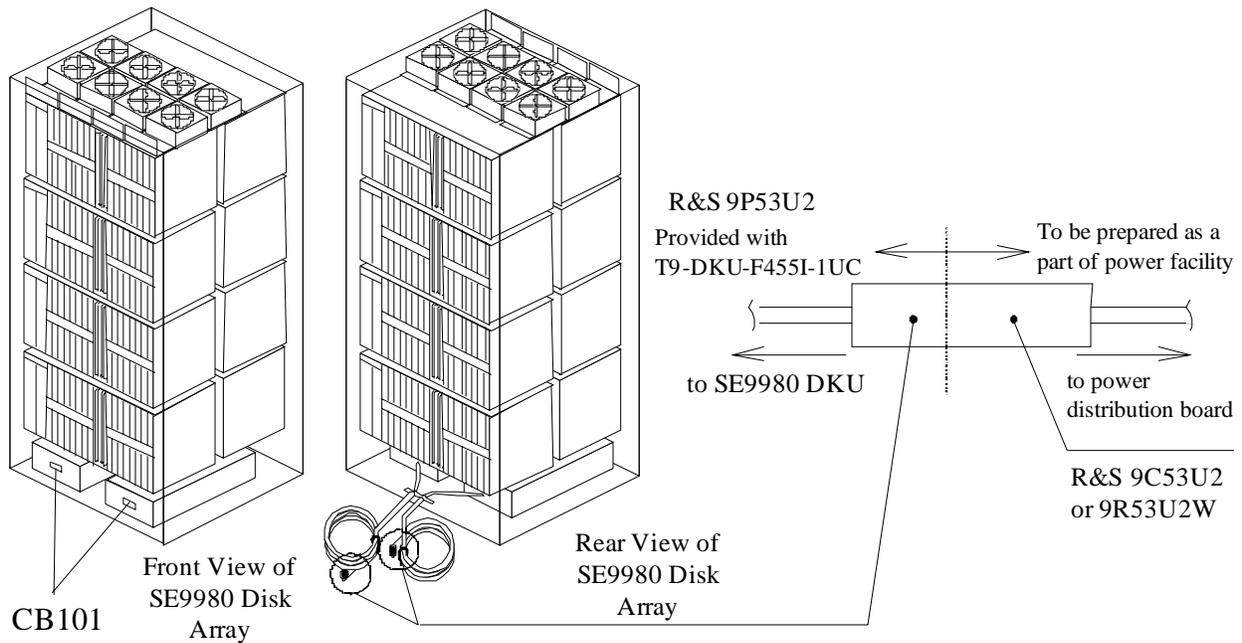

Figure 34 Power Plugs for a Single-Phase Sun StorEdge 9980 Disk Array Unit (USA)
- Figure 34 illustrates the power plugs for a three-phase Sun StorEdge 9980 disk array unit (USA).